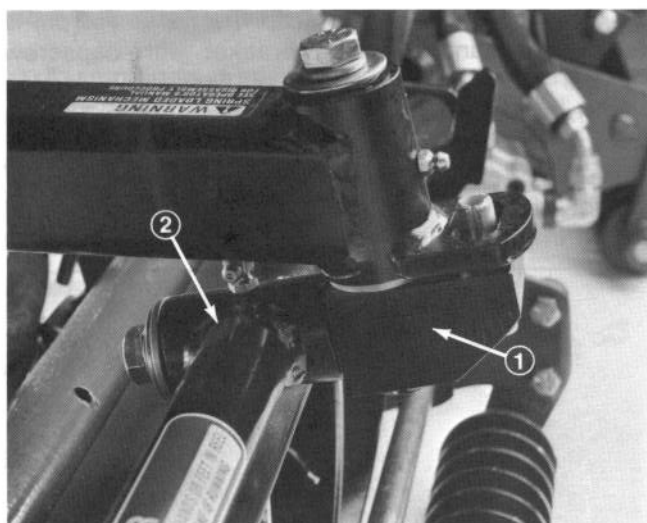

Figure 8
6. Align the mounting shaft of the cutting unit with the pivot tube on the carrier frame. Insert the shaft into the tube (Fig. 8).